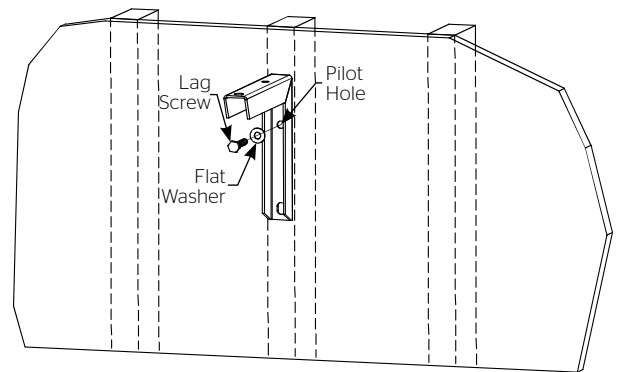

Figure 2
7. Using one 1/4" x 1-1/2" lag bolt (not provided) and 1/4" flat washer (not provided) attach bracket to wall using top mounting hole. (See Figure 2)